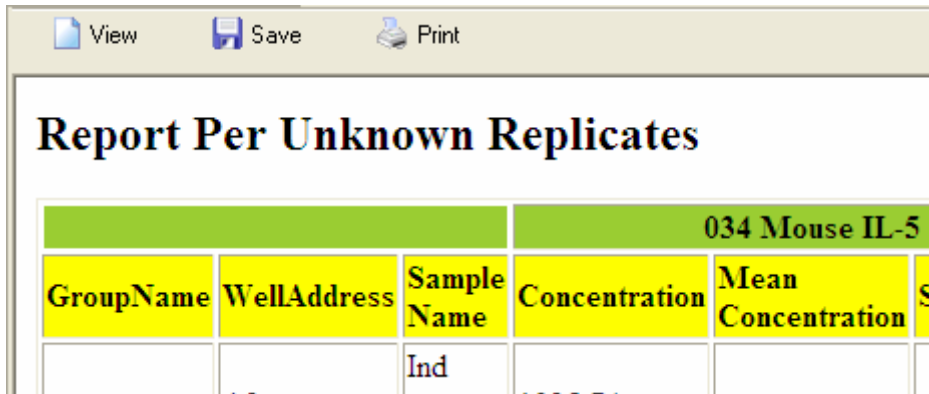

Figure 8.22 Save and Print icon for custom report
6. From the report window, user has options to save and print report, as well as to load report previously saved(Figure 8.22).